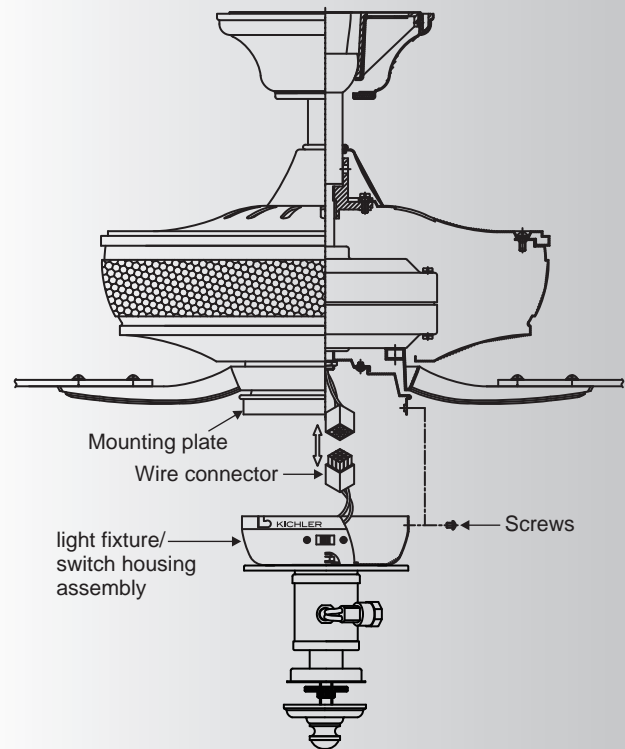

Fig. 19
Step 3. While holding the light fixture/switch housing assembly under your ceiling fan, push the square wire connectors together. One from the fan and one from the switch housing. (Fig. 19)
Attach the light fixture/switch housing assembly to the mounting plate with the three screws provided. Make sure each screw is tight. (Fig. 19)